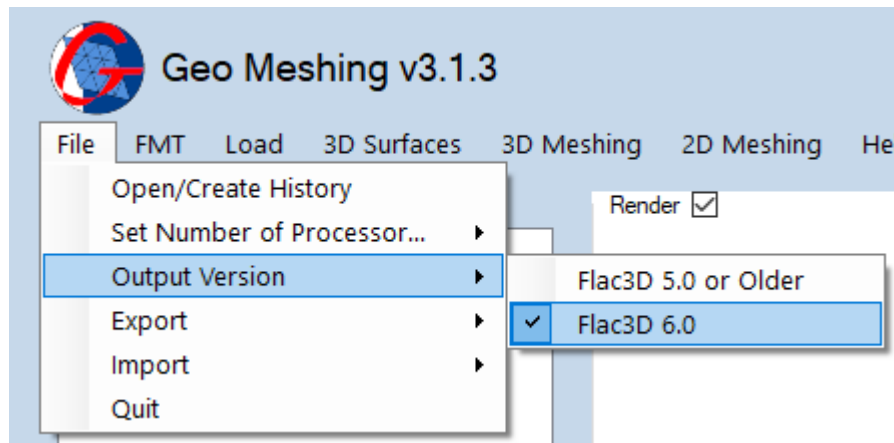

Figure 10: File Menu – Output Version.
- **File Menu, Output Version:** This option (shown in Figure 10) has a submenu with two options for defining the output format.